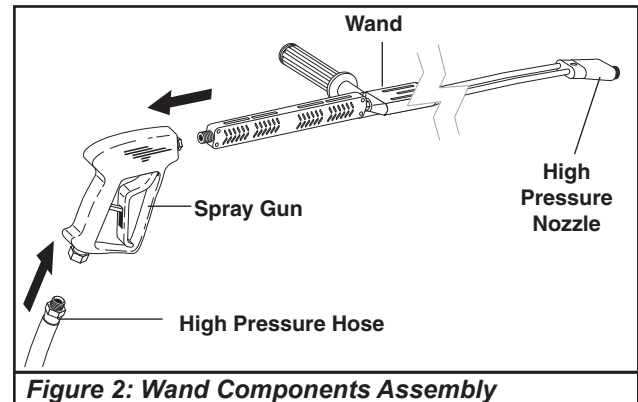

**Figure 1: Pressure Hose Installation**
1. Install the pressure hose on the pressure washer as shown in **Figure 1**.